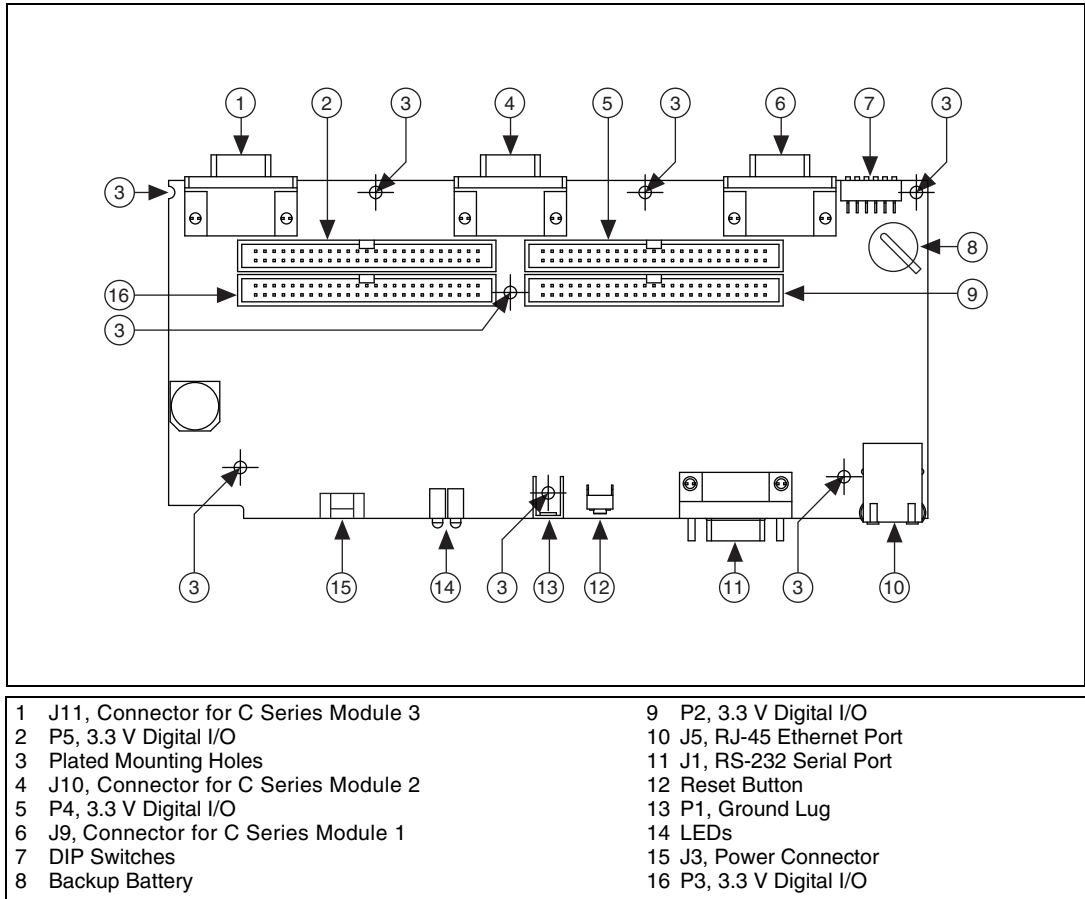

Figure 4. NI sbRIO-9601/9602/9602XT Parts Locator Diagram
Figure 4 shows the locations of parts on the NI sbRIO device.
1. Remove the MINI-COMBICON plug from connector J3 of the NI sbRIO device. Refer to Figure 4 for the location of J3.